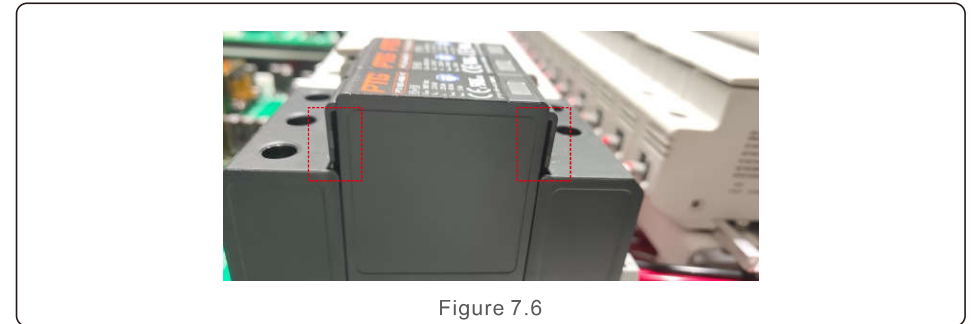

Figure 7.6
5. Press and hold the spring clip on the upper and lower sides of the damaged surge protection module and remove it. (See Figure 7.6)